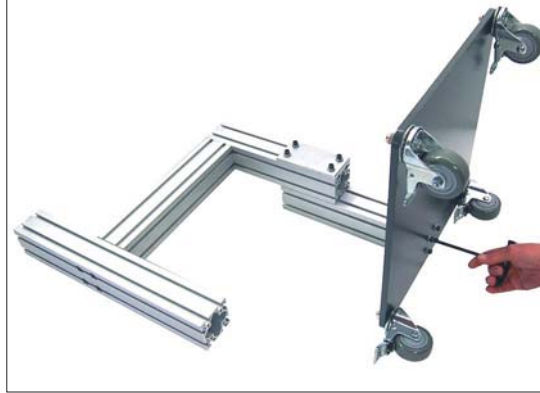

Fig. 8
1. After unpacking, locate the base and column assembly. Orient the column to the base, as shown in Fig. 8. below. Assemble using the four (4) SHCS. Use the 1/4" hex key.